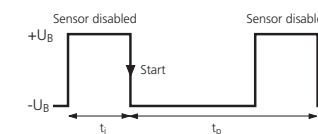

Fig. 3: External synchronization signal
- Apply a square-wave signal to the sync-input with pulse width t_i and repetition rate t_p (Fig. 3 and technical data).